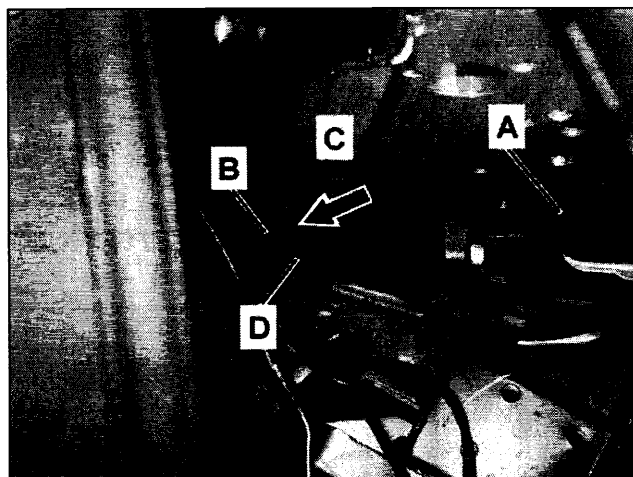

Figure 21
25. Connect SBC harness connector (A, Figure 21) to SBC hydraulic unit and secure by engaging locking mechanism.
26. Secure SBC wiring harness (B, Figure 21) to SBC hydraulic unit bracket (C) with cable tie (arrow). Torque cable tie (arrow) using cable tie pliers (Special Tool W 352 589 02 37 00) to **150 - 170 Nm** (use torque setting 4 on cable tie pliers).